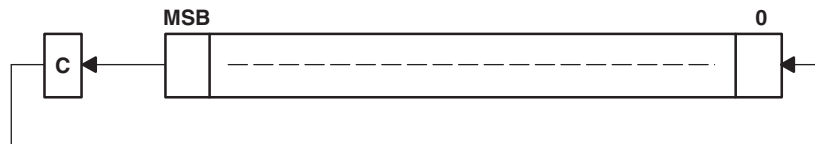

Figure 5-46. Destination Operand-Carry Left Shift
| Description | The destination operand is shifted left one position as shown in Figure 5-46 . The carry bit (C) is shifted into the LSB and the MSB is shifted into the carry bit (C). |